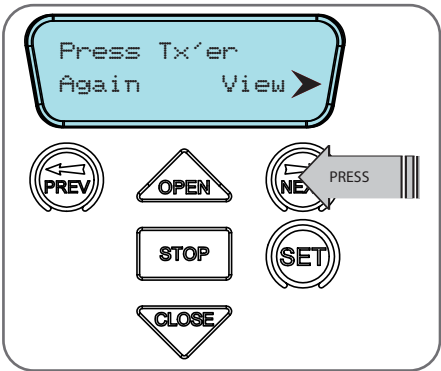

Fig G.3
- d. Press NEXT to view the transmitter parameters (Fig. G.3). This method is used for quick navigation if the transmitter is available.